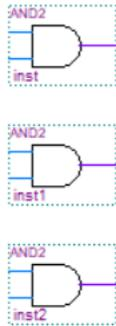

Figure 12. Add 3 and2 gates.
6. Place the three (3) **and2** gates as shown in Figure 12 by clicking on the desired placing area and then press the **ESC** keyboard key to return back to the default arrow cursor.